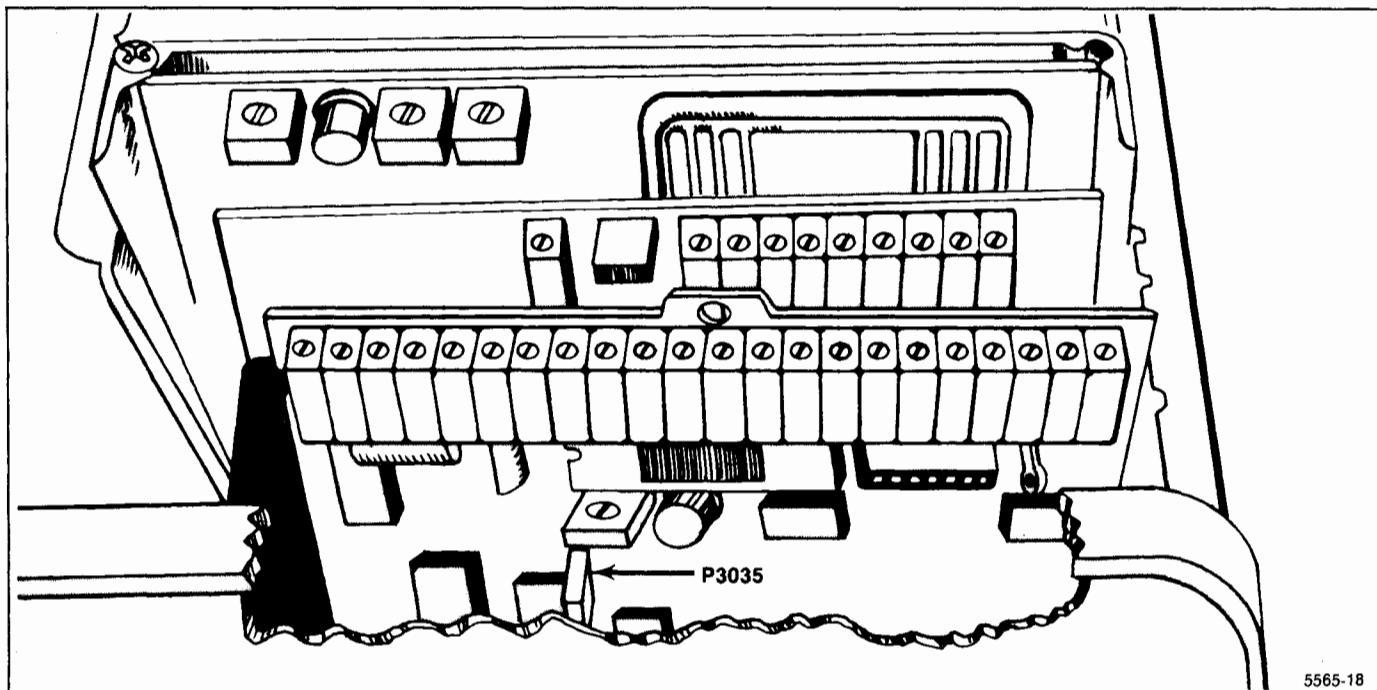

Figure 5-13. P3035 on the Video Processor board.
- a. Set the Log Amplifier correction factors to zero by pressing <SHIFT> 0 (DIAGNOSTIC FUNCTIONS) and selecting item 5 (DISABLE/ENABLE USE OF CAL FACTORS), then item 2 (SET RESULTS TO "UNCALED"). Remove Leveler Disable plug P3035 on the Video Processor board (Figure 5-13).